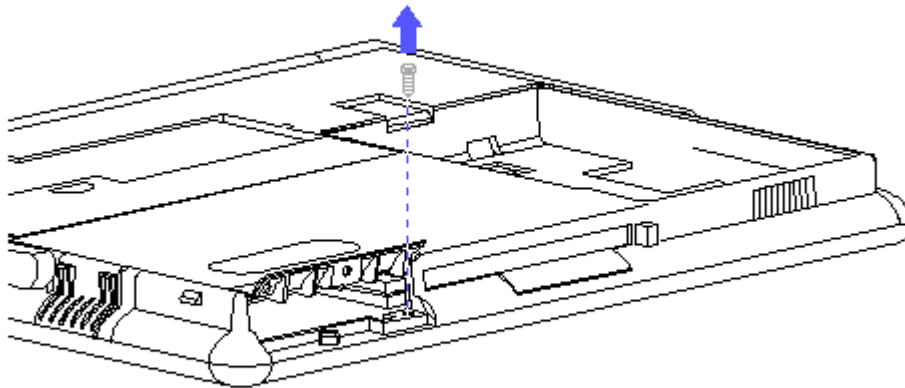

Figure 3-9. Removing the Screw Behind the PCMCIA Door
- b. Open the PCMCIA door and remove the screw located behind the door (Figure 3-9).